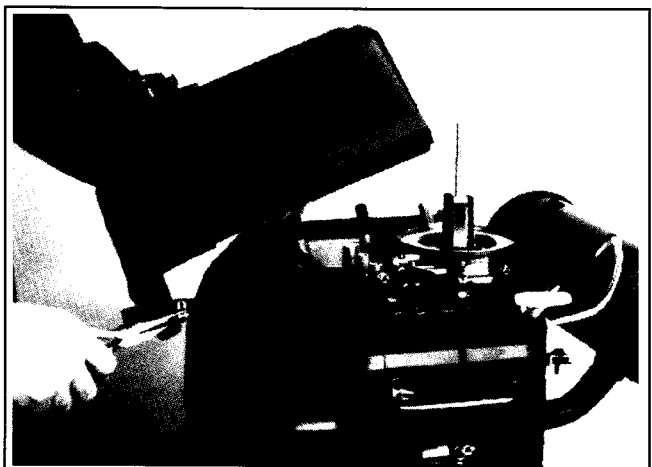

Figure 9-5. Removing Engine-Mounted Fuel Tank.
2. Lift the tank and pull it forward. Fuel line will come with it. See Figure 9-5.